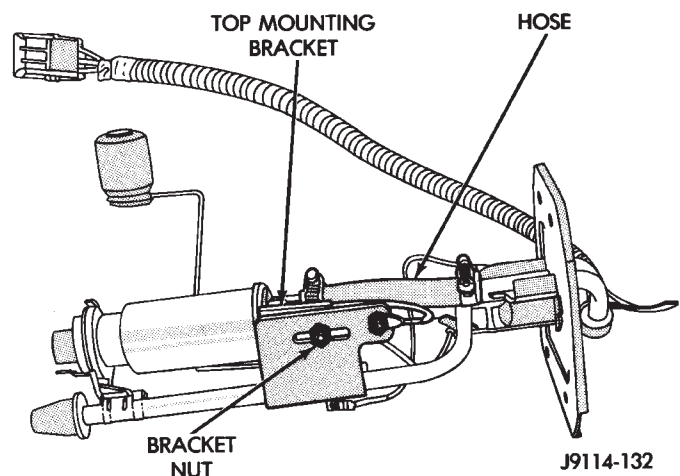

Fig. 6 Fuel Pump Removal/Installation—YJ Models
- (2) Disconnect fuel pump terminal wires from pump.
- (3) Remove fuel pump outlet hose and clamp (Fig. 6). Replace the hose if it shows any signs of fatigue or failure.
- (4) Remove fuel pump top mounting bracket nut (Fig. 6). Remove fuel pump.